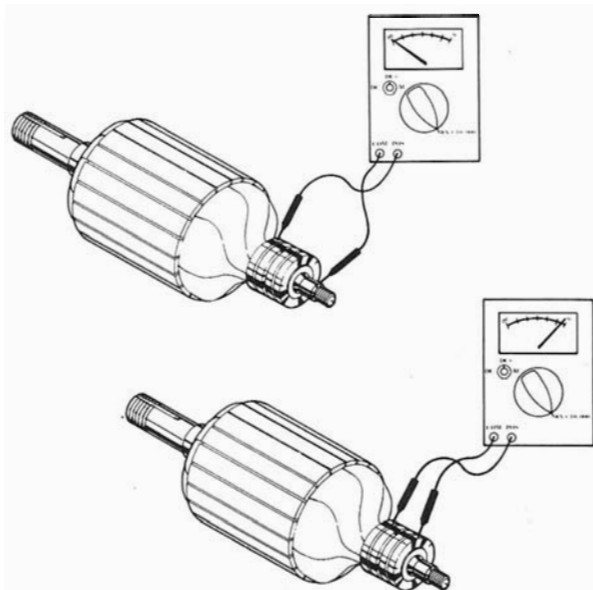

Figure 8
2. Grounding Test (See Figure 8). Set multimeter to read resistance. Holding one meter lead against a clean spot on the armature shaft, touch the other lead to each of the slip rings (one at a time) while observing the meter. If meter indicates continuity (zero ohms or any reading lower than infinite resistance), the armature is grounded.
3. Testing for Opens (See Figure 8). (Meter still set to read resistance.) Holding one meter lead on surface of slip ring No. 1, touch other meter lead to surface of slip ring No. 2 while observing the meter. Meter should indicate continuity (low resistance). If not (i.e. if meter indicates infinite resistance) part of armature windings are open and armature should be replaced.